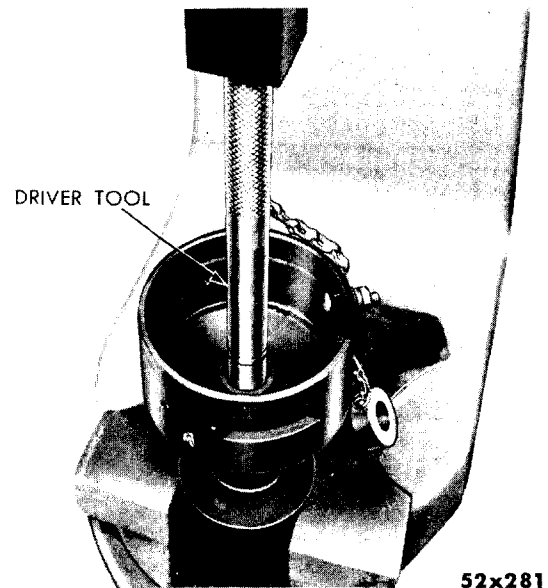

Fig. 9—Removing Drive Shaft Bushings (8 Cylinder) Typical
(15) For 8 cylinder engines, support housing in an arbor press and use Driver Tool C-3041 to remove the upper and lower bushings from the bottom of housing, as shown in Figure 9.
(16) Soak the new bushings in S.A.E. 10 engine oil for approximately 15 minutes.